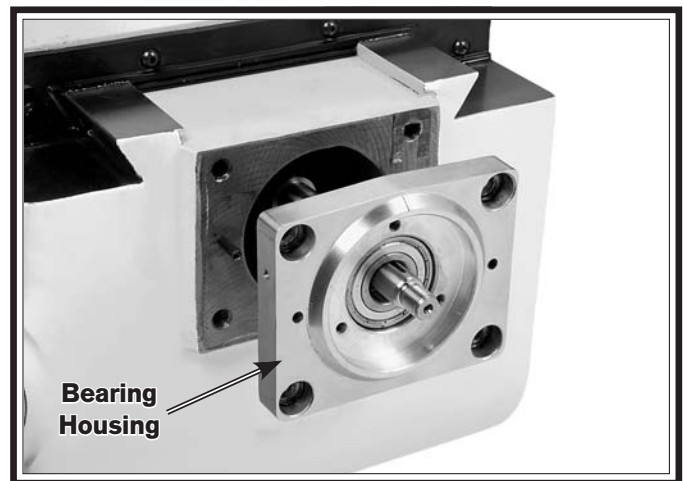

Figure 63. Removing the bearing housing from the cross leadscrew.
4. Remove the four cap screws from the bearing housing, then slide it off the leadscrew (see **Figure 63**).